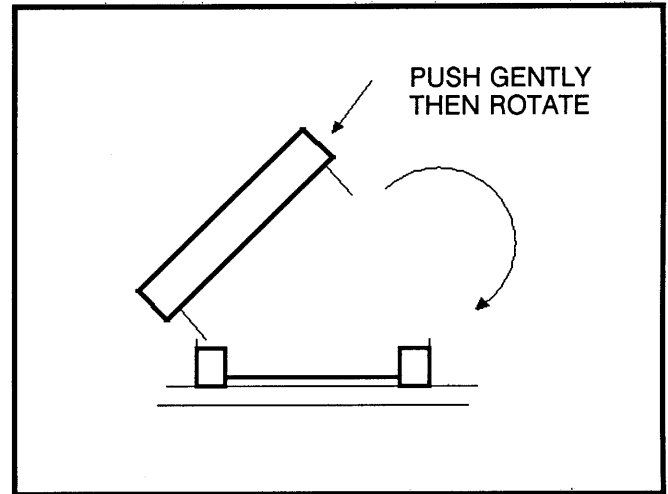

Figure E-2: Seating Chip in Socket
- 3) Very gently press the legs against the side of the socket so the legs on the right side will insert easily. (See **Figure E-2**)